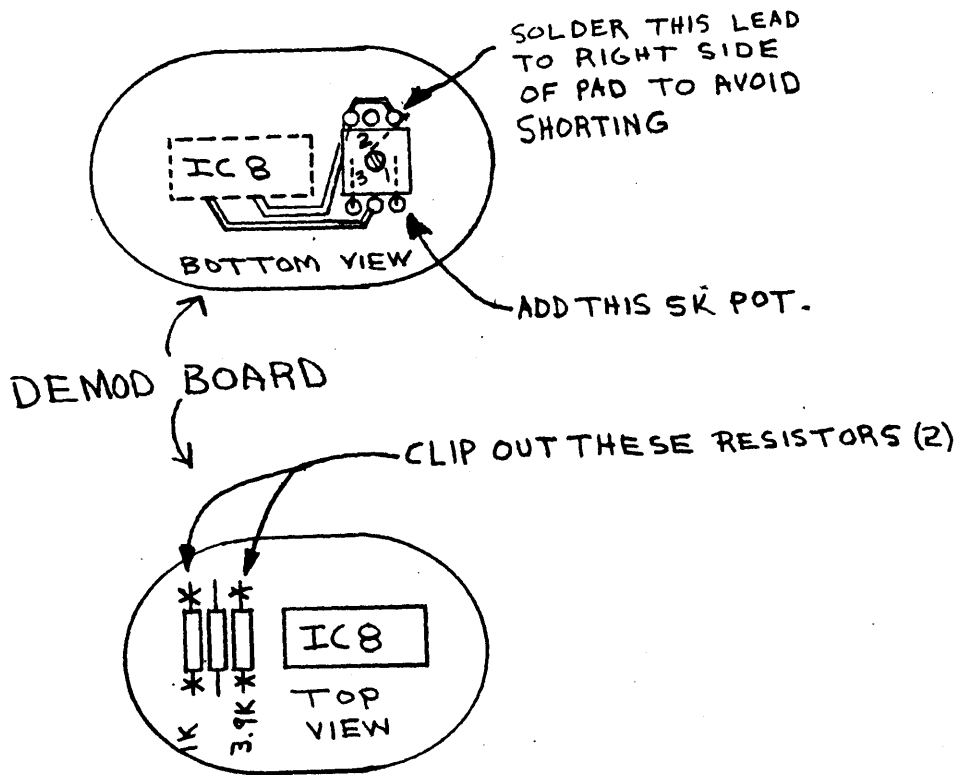

Figure 17. Autoprint Threshold Pot Location
- () Refer to Figure 17 and locate IC8 on the circuit board. The two resistors removed previously were located between IC7 and IC8.
- () Solder the three trim-pot leads to replace these resistors as shown in Figure 17. Note that the two pot leads connect towards the front panel and the single lead away from the front panel.